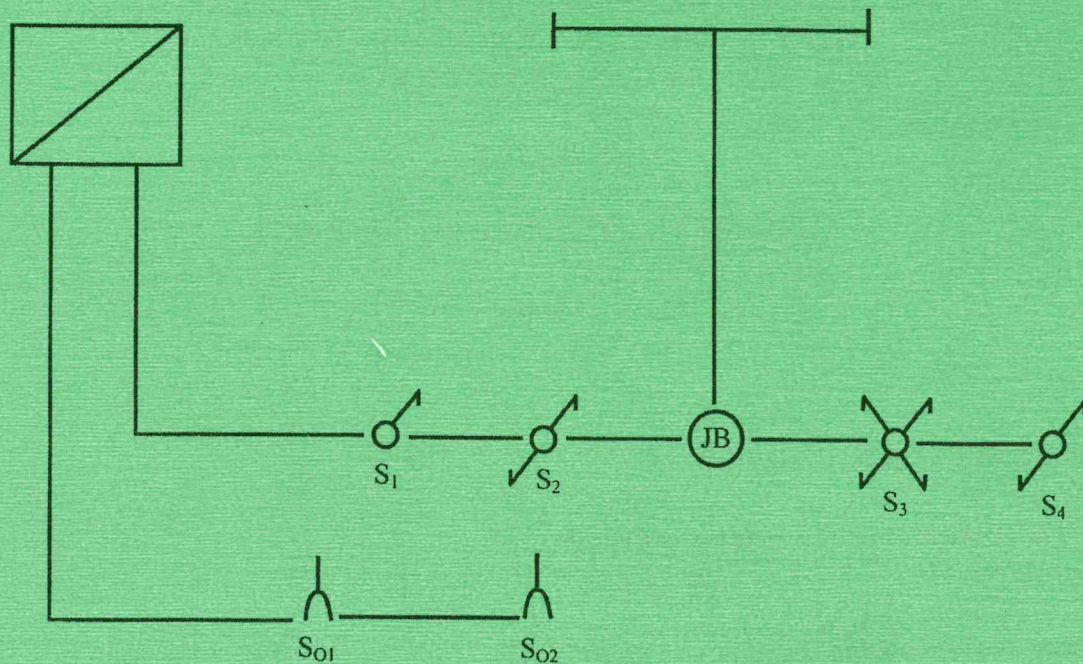

Fig. 1
- (c) Figure 1 shows a schematic installation diagram in an aircraft environment. The power circuit is connected in Ring. S2, S3 and S4 control the lamp.
- (ii) Draw a wiring diagram of the installation in Figure 1. (11 marks)